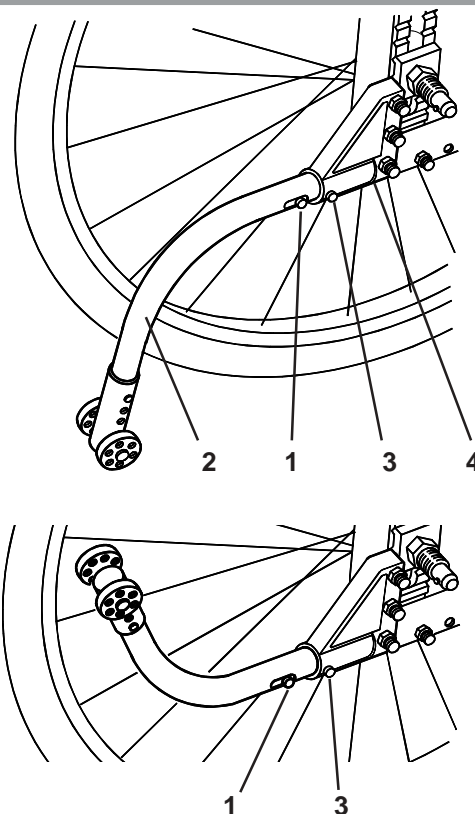

Fig. 27
Press the rear (Fig. 27) anti-tip release lever (1) on the anti-tip tube (2) so that both locking pins (3) are drawn into the tube, and insert it into the anti-tip tube receiver (4). Ensure the two locking pins are located and locked into the receiver mounting holes.
In some instances it can be wise to rotate the tubes through 180° (Fig. 27), hold the release pins (1) in and rotate the tubes through 180°, allowing the locking pins (3) to click into position.